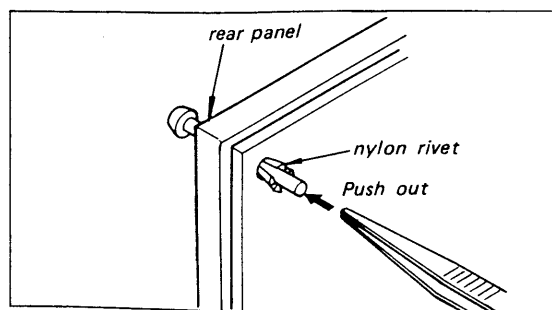

Fig. 2-11. Nylon rivet removal
1. Remove the nylon rivets securing the defective component by pushing its end with a tweezers shown in Fig. 2-11.